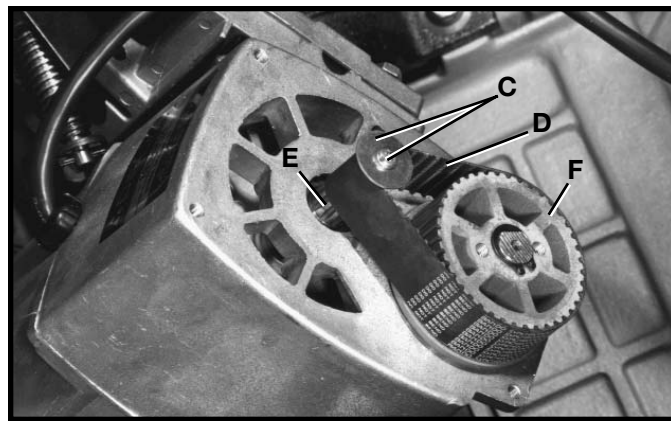

Fig. 66
5. Remove the screw and washer (C) Fig. 66. Slide belt (D) off the motor shaft (E) and arbor pulley (F).
7. Replace screw and washer (C) Fig. 66, and cover that were removed in **STEP 4**.